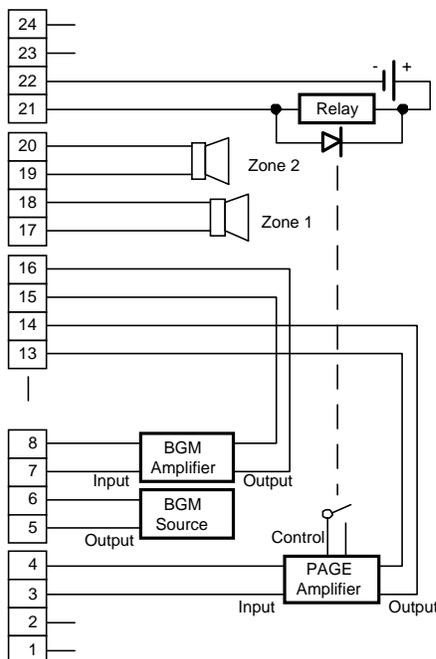

FIGURE 41. BGM THROUGH ALL SPEAKER WIRING
3. Connect the BGM source output and page amplifier to the punchdown block as illustrated in Figure 41.